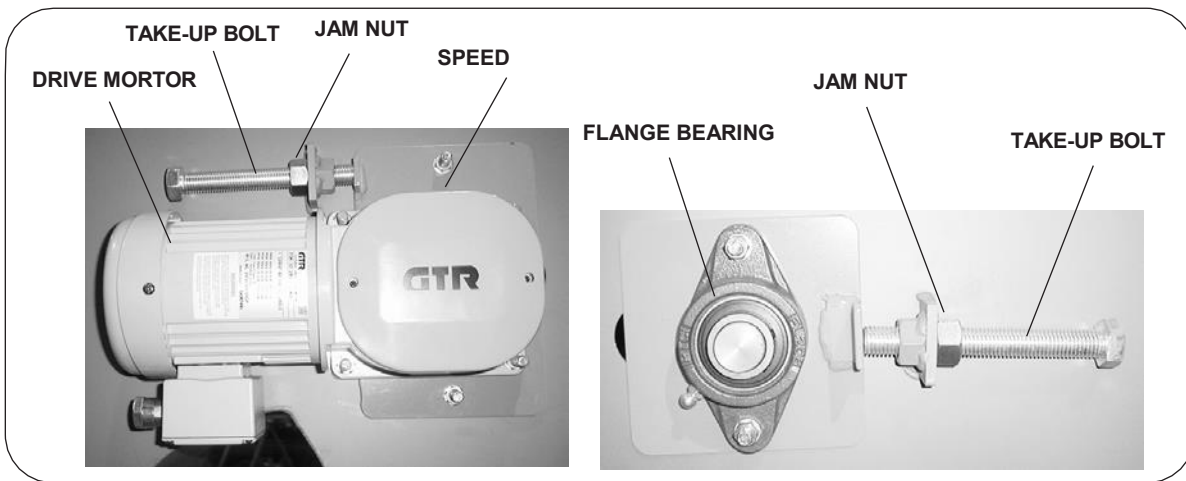

Figure 9. Direct Drive and Take-Up Mechanisms
1. Conveyor chains eventually stretch with operation so that tension must occasionally be adjusted using the take-up mechanism as follows (refer to Figures 9 and 10):